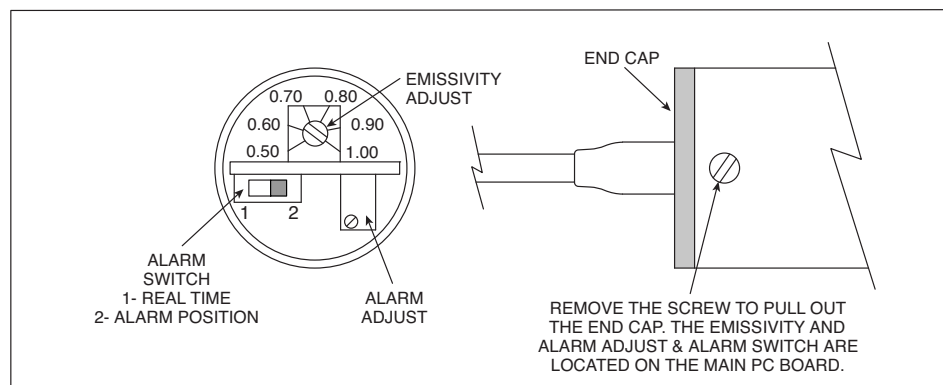

Figure 3-2. Location of Emissivity & Alarm Adjust and Alarm Switch
- ✓ Remove the End Cap to get to the Emissivity Single Turn Pot (Fig. 3-2). Set the Emissivity Pot based on the target surface. Then put back the End Cap.
- Remove the End Cap to get to the Alarm Switch and the Alarm Adjust (Fig. 3-2).
- Set the Slide Switch on the main board to the Alarm position (2).